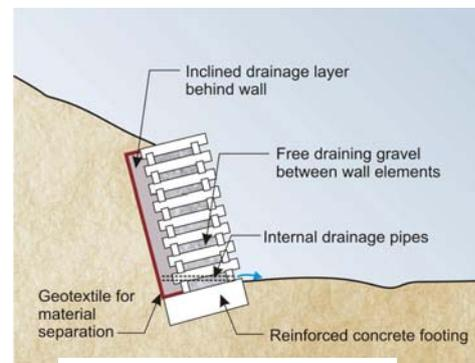

Figure 2 -Typical crib
**Concrete "crib" walls** (Figure 2) - should be filled with clean gravel, or "blue metal" with a nominated grading. Sometimes soil is used to reduce cost, but this is undesirable, from an engineering perspective, unless internal drainage is incorporated in the wall's construction. Without backfill drainage, a soil filled crib wall is likely to have a lower factor of safety than is required. Crib walls should be inspected as for formed concrete walls. In addition, you should check that material is not being lost through the structure of the wall, which has large gaps through it.